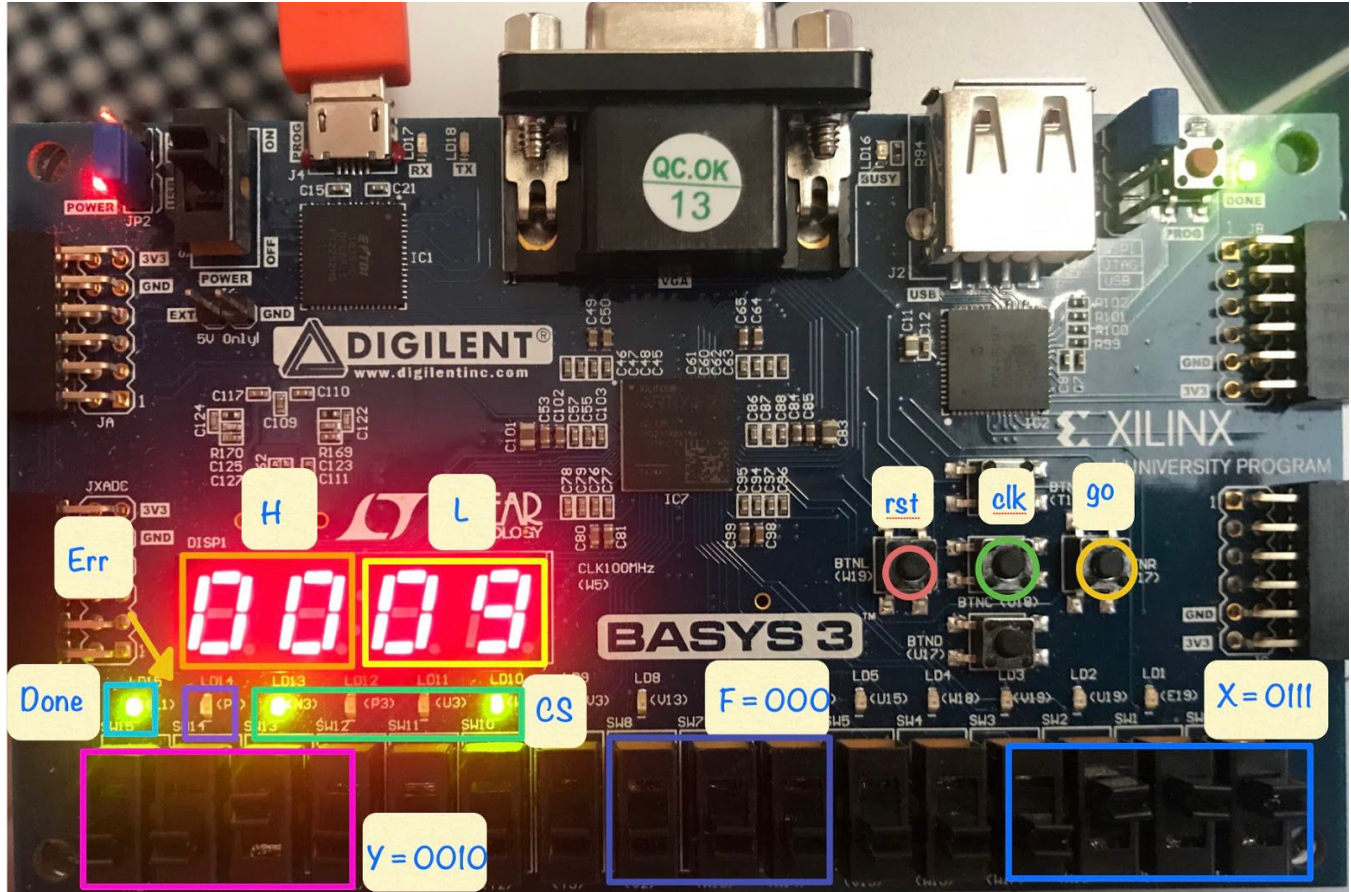
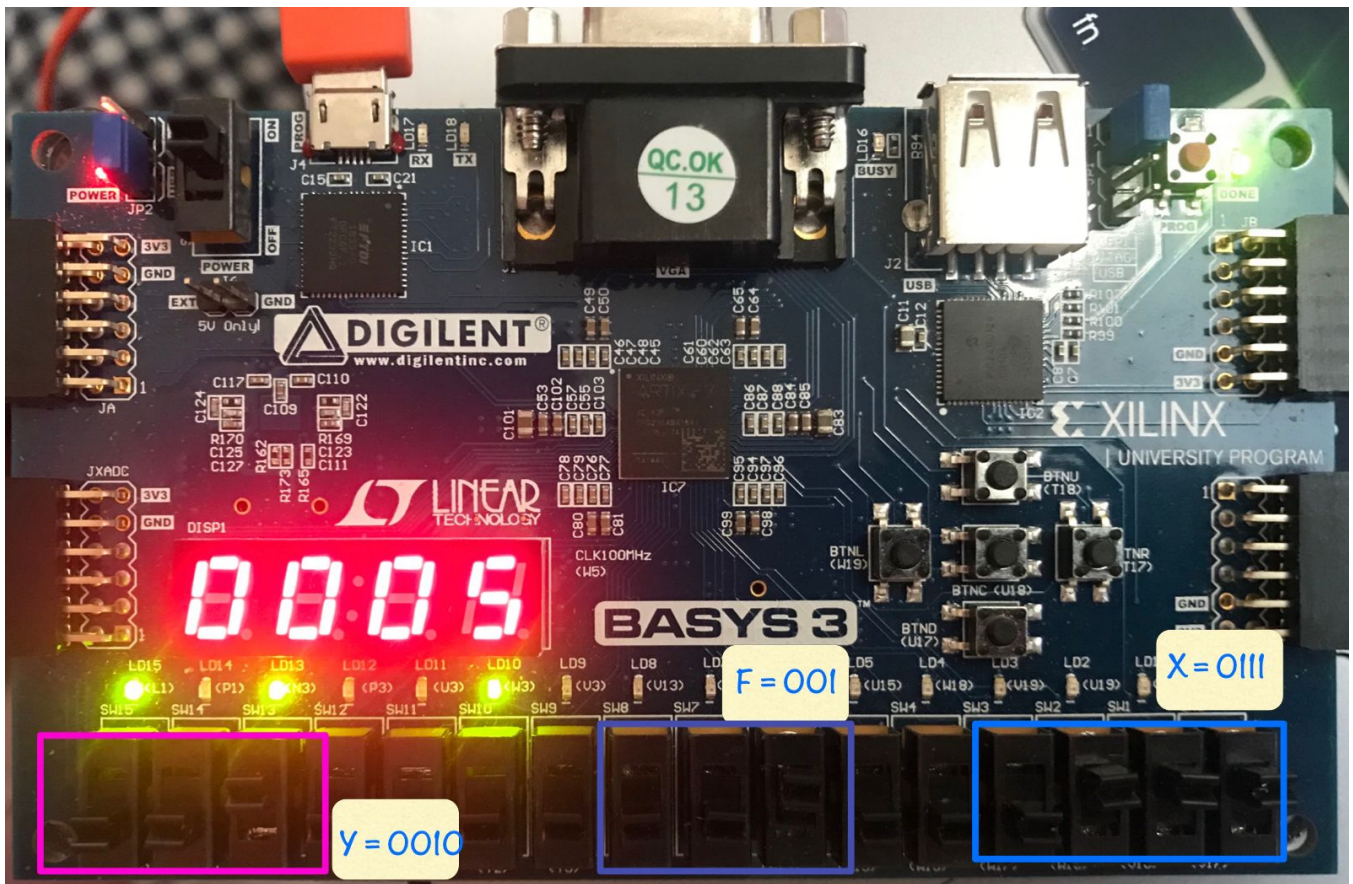
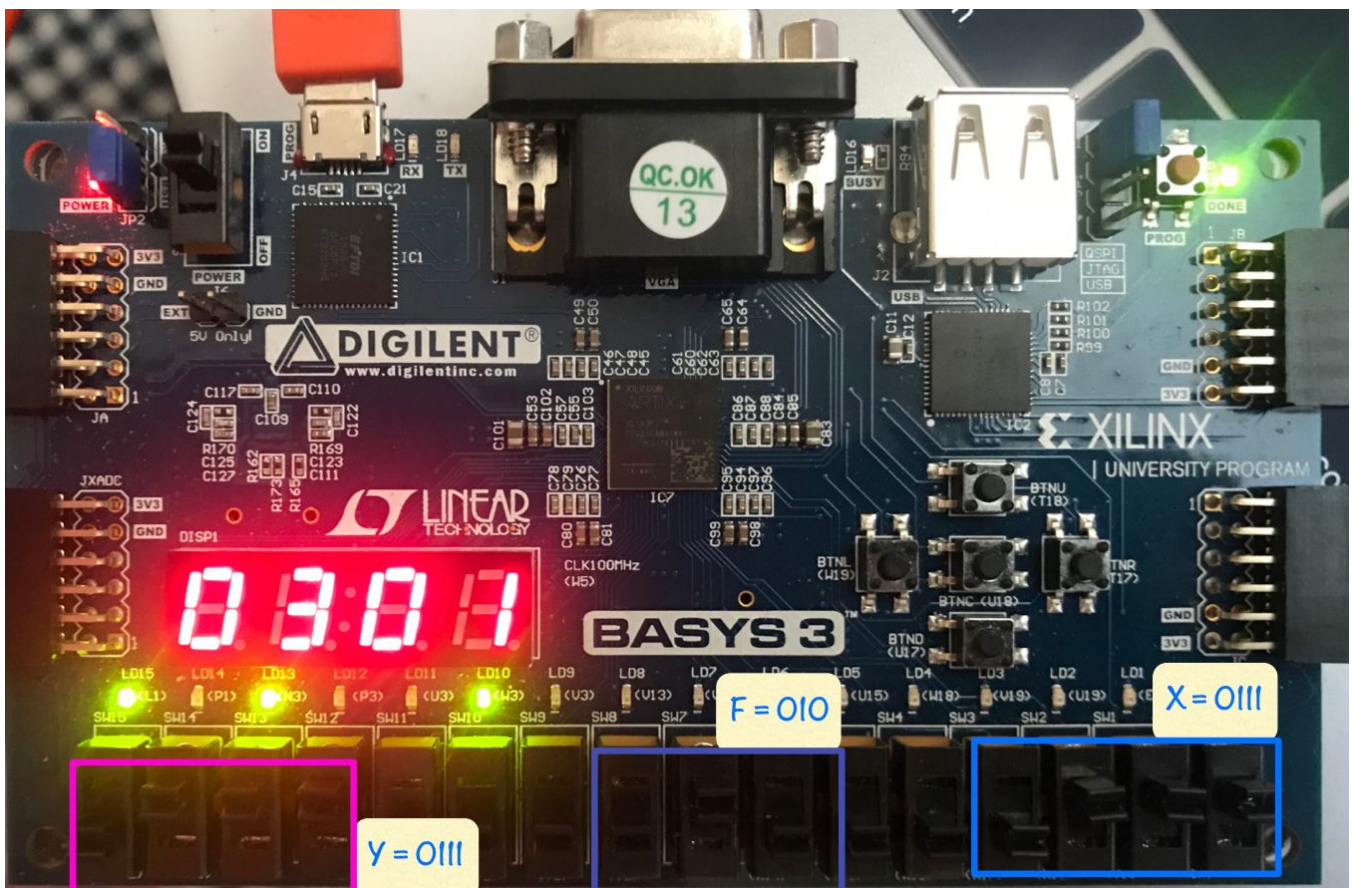

Figure 7: 0111 + 0010 ( $7+2$ )
Figure 8 : 0111 - 0010 (7-2)
Figure 9 : 0111 \* 0111 (7\*7)
For the FPGA validation process, the rightmost four switches are 4-bit input integer (x), the leftmost four switches are 4-bit integer(y). The center button is the clock, the left button is reset input, and the right button is go input. The 4-bit output(L) need two seven segment LEDs on the left since the maximum value is 15. The 4-bit output(H) need two seven segment LEDs on the right since the maximum value is also 15. There also LED for the Done, Err, and the Current State signals. The done signal should lit at state S9 when the operation is done. The Err signal is On(1) when  $Y=0$  if choosing division operation. According to *Figure 7*, when choosing the addition operation (000) between 0111 and 0010 (7+2), the result appeared in the L seven-segments is 9 which is correct. According to *Figure 8*, when choosing the subtraction operation (001) between 0111 and 0010 (7-2), the result appeared in the L seven-segments is 7 which is also correct. According to *Figure 9*, when choosing the